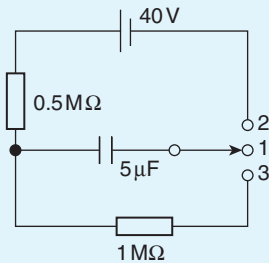

Figure 18.9
- (a) In the circuit shown in Fig. 18.9, with the switch in position 1, the capacitor is uncharged. If the switch
S is moved to position B, the current value decreases, causing a decrease in the strength of the magnetic field. Flux linkages occur, generating a voltage  $v_L$ , equal to  $L(di/dt)$ . By Lenz's law, this voltage keeps current  $i$  flowing in the circuit, its value being limited by  $R$ . Thus  $v_L = v_R$ . The current decays exponentially to zero and since  $v_R$  is proportional to the current flowing,  $v_R$  decays exponentially to zero. Since  $v_L = v_R$ ,  $v_L$  also decays exponentially to zero. The curves representing these transients are similar to those shown in Fig. 18.9.